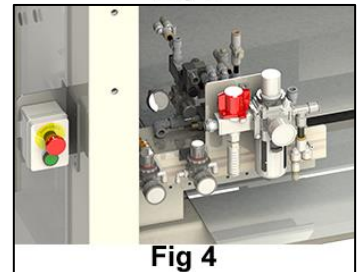

Fig 4
2. Turn the Main Air valve to the ON position. The pressure gauge should be set to 80 PSI. See Fig. 4.